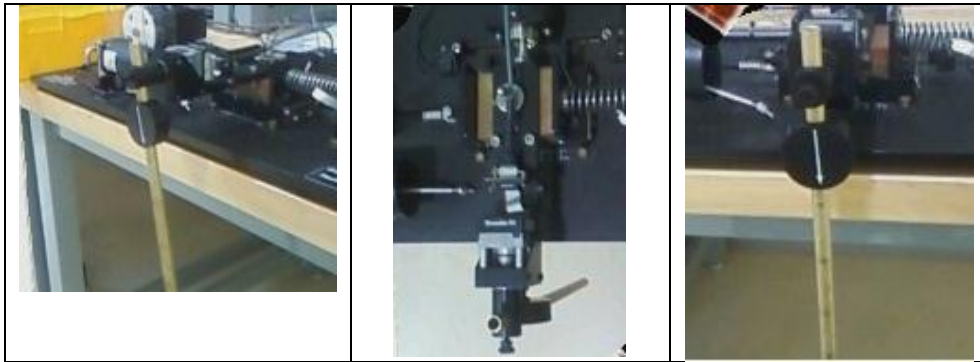

Figure 2: Regular Pendulum Set Up
5. The wire to measure the position of the pendulum position encoder should be securely attached (with the screws) and the cart and pendulum should be free to move (see Figure 2).